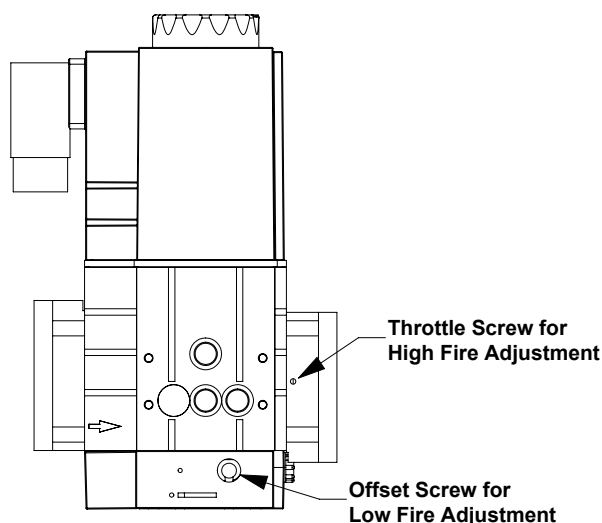

Figure 24: Gas Valve Air/Fuel Adjustment
- a. If high fire O_2 is too high (CO_2 is too low), decrease O_2 (increase CO_2) by turning the throttle screw towards the "Plus (+)" sign in 1/4 turn increments and checking the O_2 (or CO_2) after each adjustment. Refer to Figure 24 for location of throttle screw. Verify CO air free is less than 200 ppm.